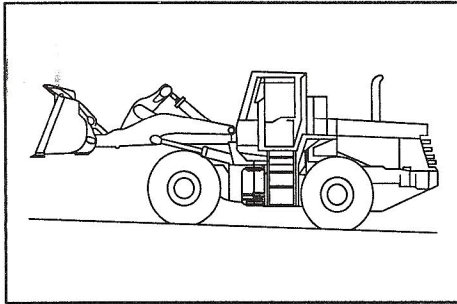

Fig. 05-37
- (1) Keep the boom and the bucket be in horizontal status, then shut off the engine (See Fig. 05-37).
- (2) Wait for 5 minutes and then start to make measurement.